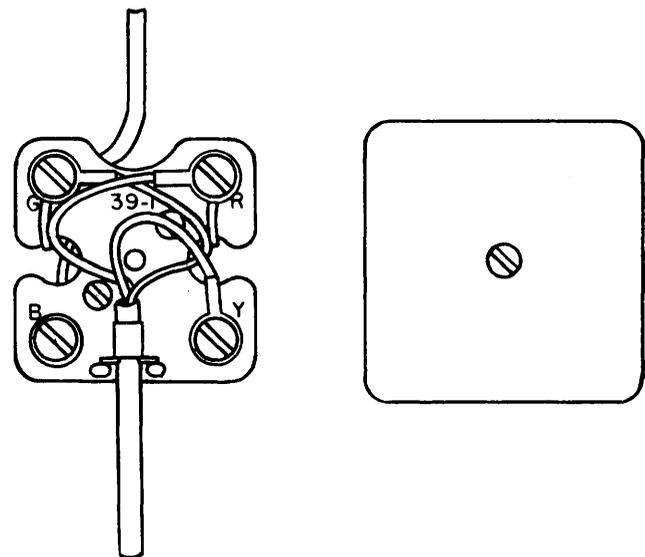

Figure 8. Murdock Number 39-M Connecting Block.
2.07 The Murdock number 39-M block (Figure 8) is equivalent to the WECO number 42A, but both block and cover are molded of phenolic. The mounting bosses are shaped and located differently to provide more space for wire to pass under the block. Terminal designations are oriented in accordance with the normal mounting position, and the fanning slots are slightly smaller. Since this block was introduced for use with line cords having S-hook strain relief, the area adjacent to the cord-entry point and lower mounting hole has been molded to afford greater clearance for such hooks. This also makes possible the anchoring of a ring-band strain relief at this point. The mounting holes are located in the same position as those on the 42A but are slightly smaller and require the use of number 6 mounting screws, rather than number 8.